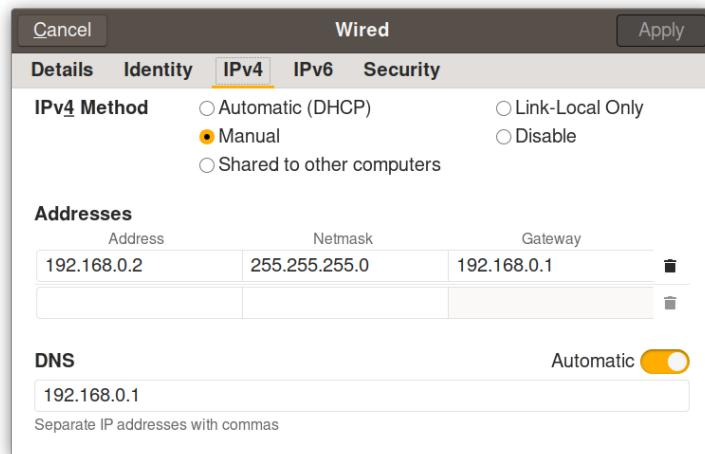

Figure 3: IPv4 settings for accessing the Recovery Tool.
- Select the wired network as your connection (must be "forced", since it doesn't have internet access). To do so, you should disable the IPv6, and set the IPv4 as manual, as visible in the figure 3 hereafter.